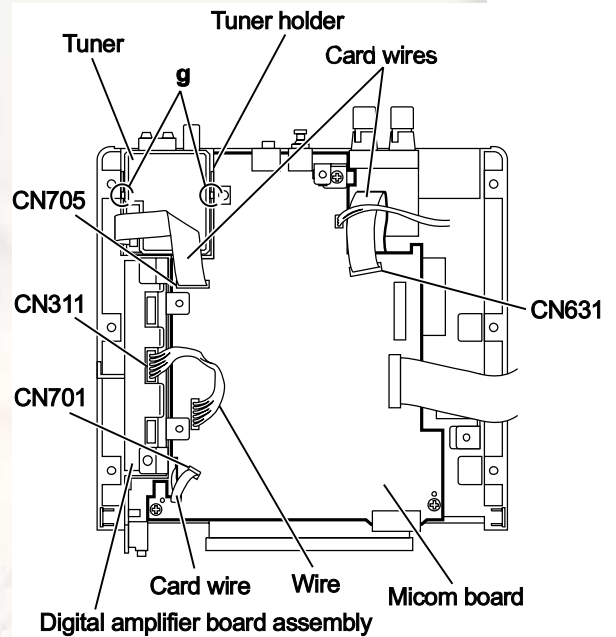

Fig.16
3.1.9 Removing the micom board (See Figs.16 and 17)
- From the top side of the main body, disconnect the card wires from the connectors (CN631 and CN701) on the micom board. (See Fig.16.)
- Disconnect the card wire from the connector CN705 on the micom board and take out the tuner after releasing the claws **g** of the tuner holder. (See Fig.16.)
- Disconnect the wire from the connector CN311 on the digital amplifier board assembly. (See Fig.16.)